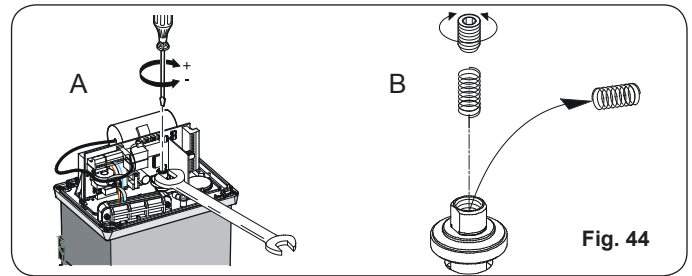

Fig. 44
- Keep the motor shaft locked with a wrench and turn the clutch adjustment screw with an Allen wrench or screwdriver as shown in Fig. 44 Ref. A.
- ⇒ **The operator is supplied as standard with a clutch adjustment spring for gates up to 2200 lbs. For heavier gates, use the supplied alternative spring. For spring replacement instructions, see Fig. 44 Ref. B.**